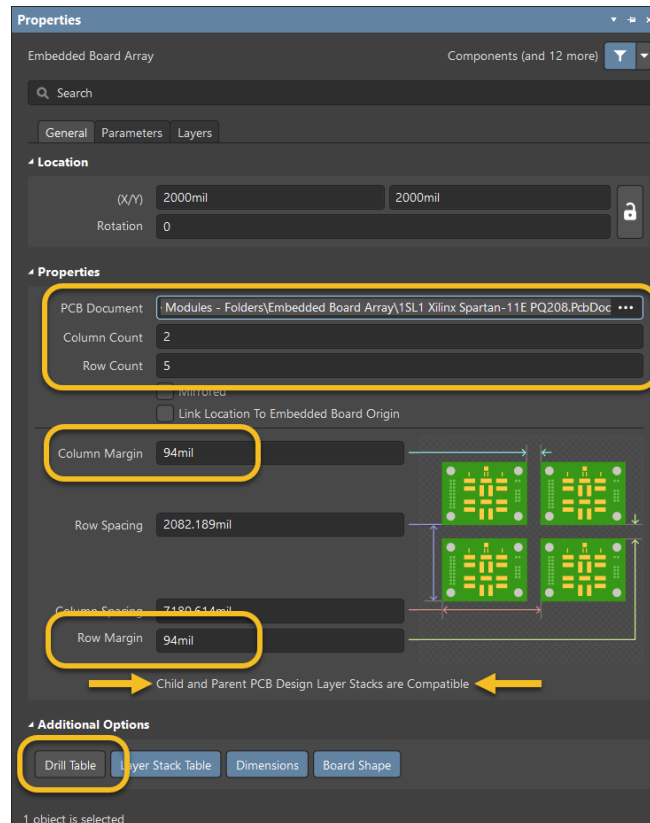

Figure 2. Embedded Board Array dialog
12. With the PCB design still on your cursor, change some of the values in the *Properties* panel. Refer to the information below, as well as Figure 2 on the following page.